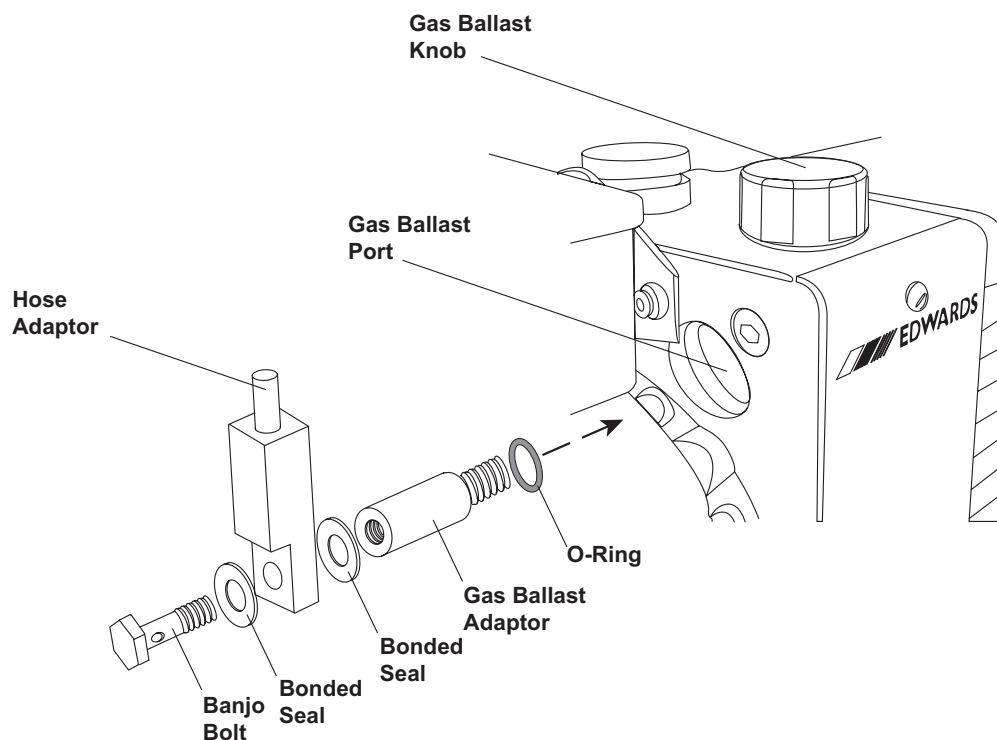

Figure 1-7. Installing the hose adapter
- b. Fit the O-ring to the gas ballast adapter. Then, screw the gas ballast adapter into the gas ballast port on the forepump (see Figure 1-7).